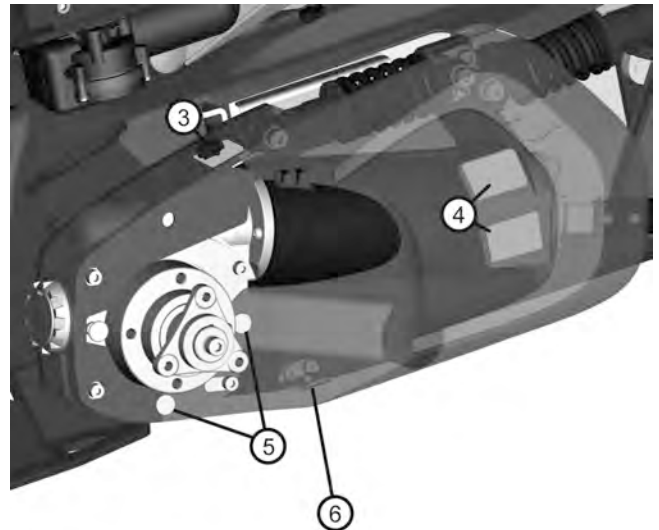

Figure 21. The drive motor cover is assembled with hook and loop fasteners (3 – 4) and a fixing point (5) at the bottom.
- Position the cover on the drive package making sure the fixing point (5) is correct positioned with the screw head (6) in corresponding hole of the cover. See fig. 21.
- Make sure it fits towards the drive gear cover and assemble the knob (3) on the top. See fig. 21.
- Press the cover from the side against the drive package until the hook and loop fastener (4) attaches with a "Click". See fig. 21.